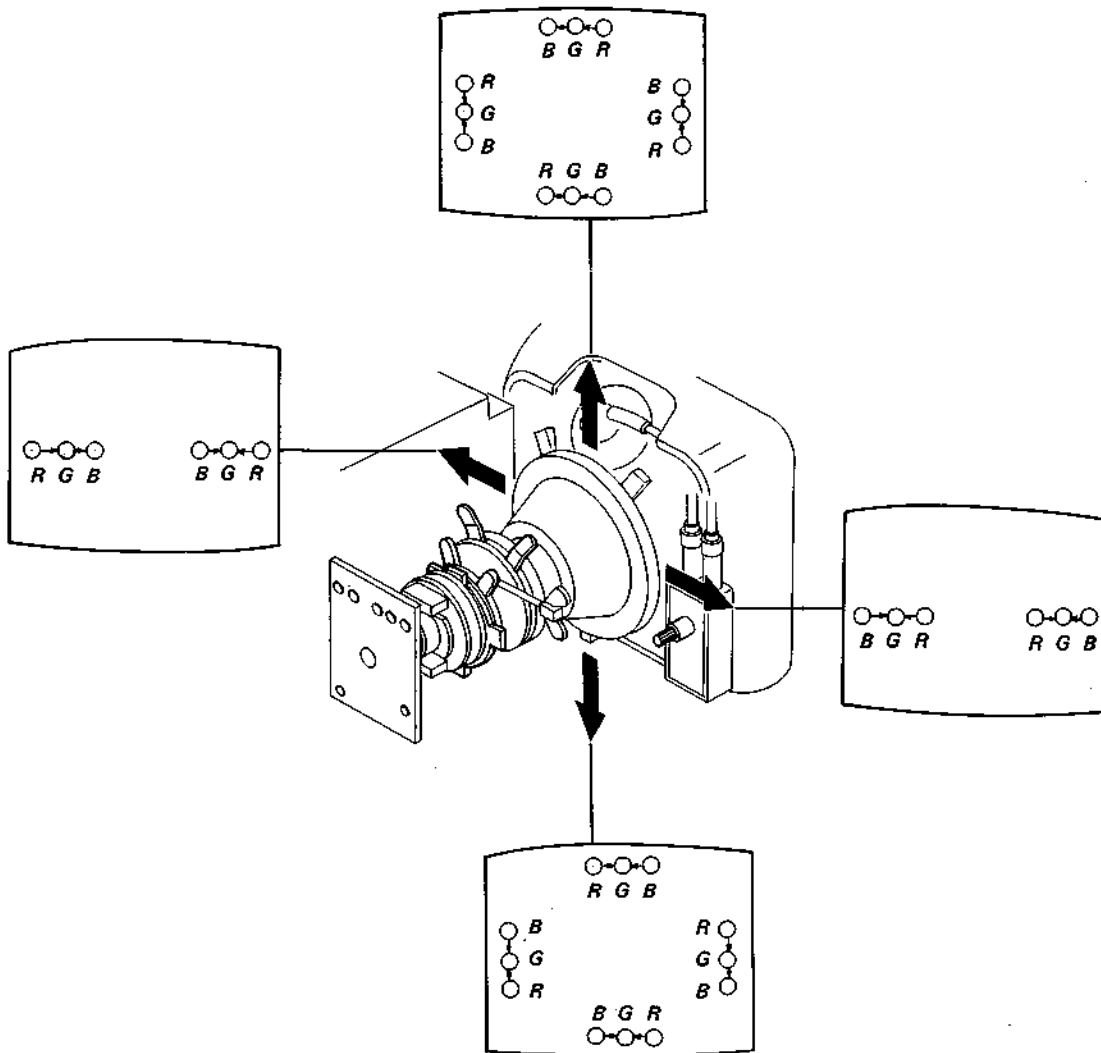

Fig. 3-5
3. Move the deflection yoke for best convergence as shown in Fig. 3-5.